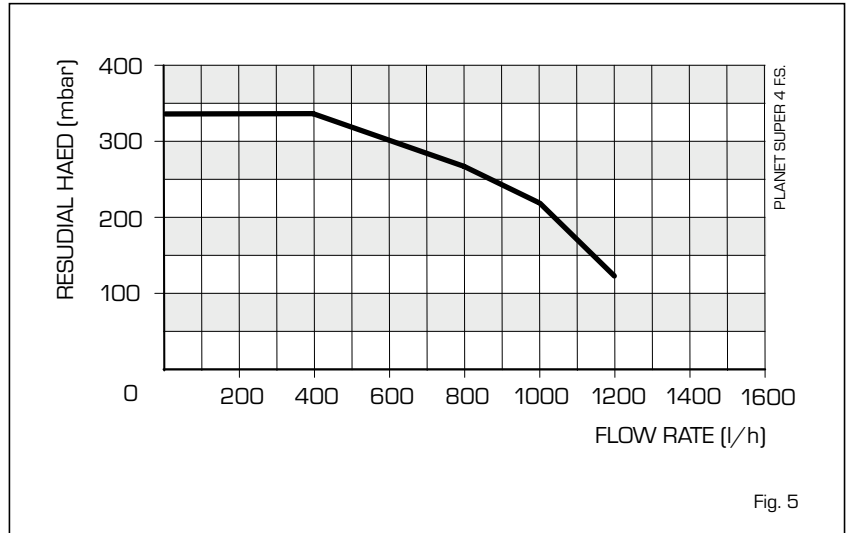

Fig. 5
- The available pump head is given in fig. 5.
- The appliance is equipped with an internal by-pass that operates with system heads (H) greater than 3,5 m. If thermostatic radiator valves are to be installed, at least one radiator should be without a thermostatic valve (usually the bathroom radiator).
The available head shown in fig. 5 is that in excess of the appliance hydraulic resistance, i.e. that available for the system at any given heating load up to the maximum output in C.H. mode. Never reduce the pump speed below maximum as this will reduce D.H.W. output. The pump speed is indicated on the side of the pump speed selector switch (if fitted).